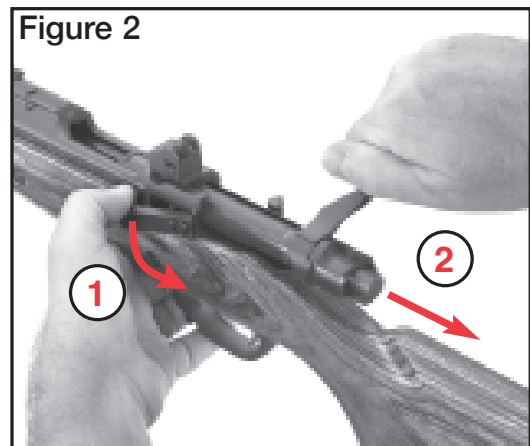

Figure 2
5. Using your thumb, pivot out the bolt stop (located on the left side of the receiver on the right-handed version and the right side of the receiver on the left-handed version). Now, pull the bolt rearward, sliding it free of the receiver. See Figure 2.